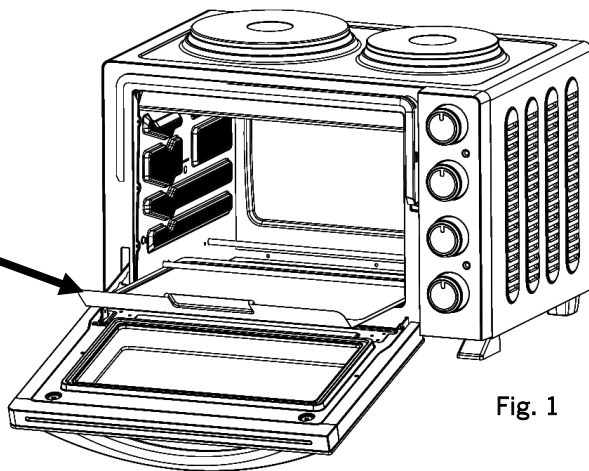

Fig. 1
- Where to fit the crumb tray - see Fig. 1
- Slide the crumb tray **underneath** the lower heating elements so that it lays flush with the base of the oven (Fig. 1)